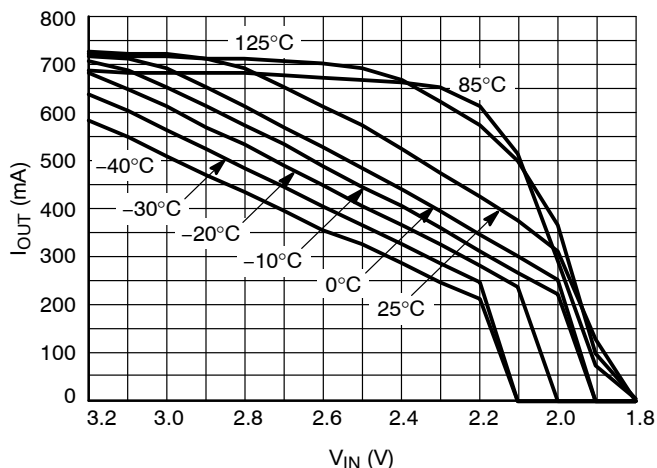

Figure 21. Output Current Capability for the 1.8 V Version
18. For output current capability for $T_A < 0^{\circ}\text{C}$, please refer to Figure 21.